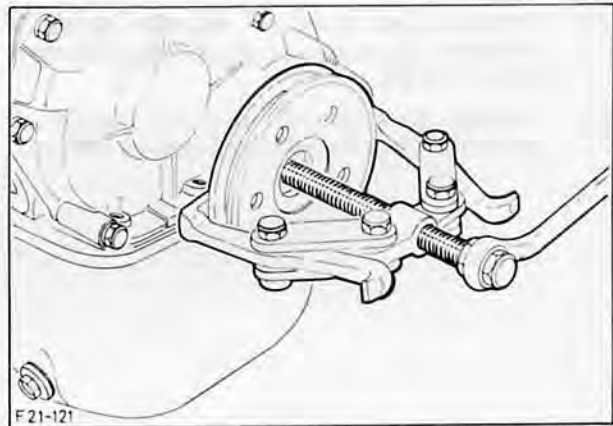

Fig. 32. Pull off crankshaft pulley using Special Tool
8. Remove crankshaft pulley (1 bolt), using Special Tool, Fig. 32 and rocker cover (4 screws).